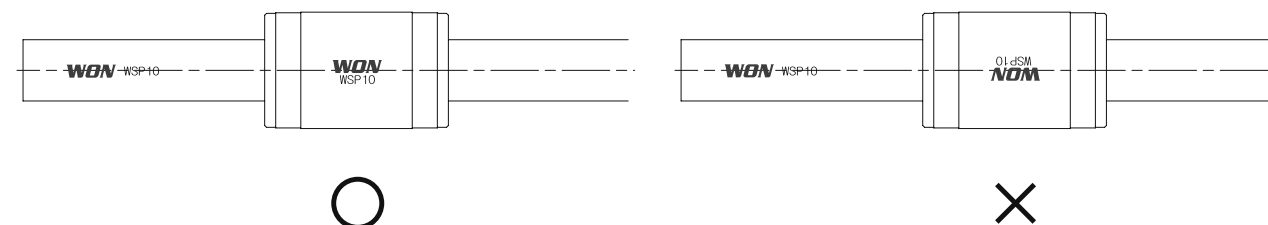

Figure 10
- ① The working temperature of WON Ball Spline is max. 120°C in case of discontinuous use, and max. 80°C for continuous use. If above 80°C, please contact WON ST.
- ② WON Ball Spline is set to optimal precision in the condition where its spline shaft and nut mark are in the same direction and position (See Figure 10). To attach it to a machine, it is careful not to change steering of a spline shaft, arrangement of a nut, and a steering direction.
- ③ If more than two keys are used to fix the rotation direction of an outer sleeve on the basis of one shaft and over two nuts, it is required to make the position of each key groove of nut in parallel. For this case, please contact WON ST.